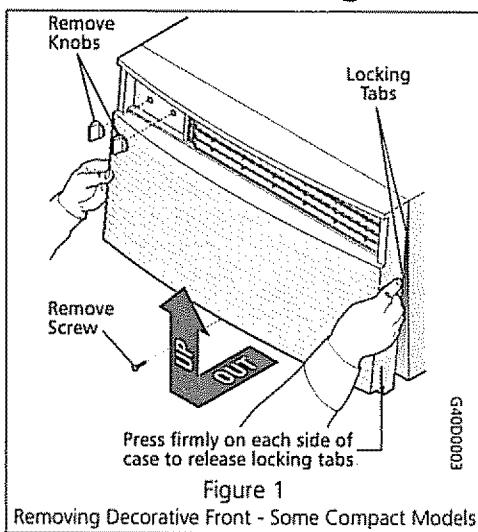

Figure 1
2. Remove knobs by pulling firmly. Remove front retaining screw at the bottom of the front (Figure 1)